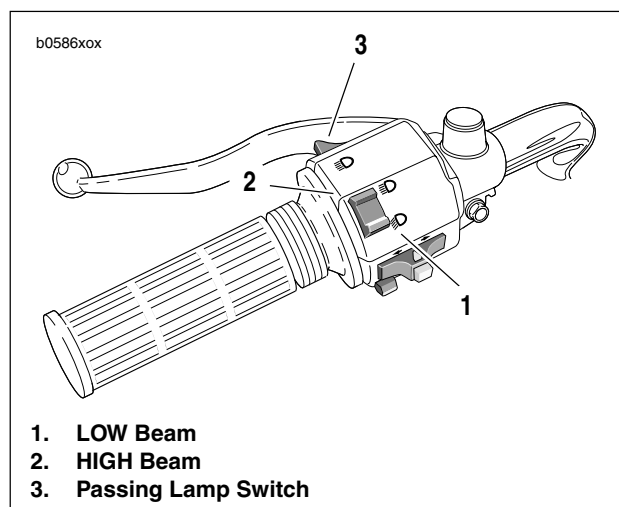

Figure 7-62. Passing Lamp Switch
- See Figure 7-62. Check headlamp LOW (1) and HIGH beam (2) settings.
- Set headlamp to LOW beam (2). Press passing lamp switch (3). Headlamp should flash HIGH beam for as long as the switch is pressed.